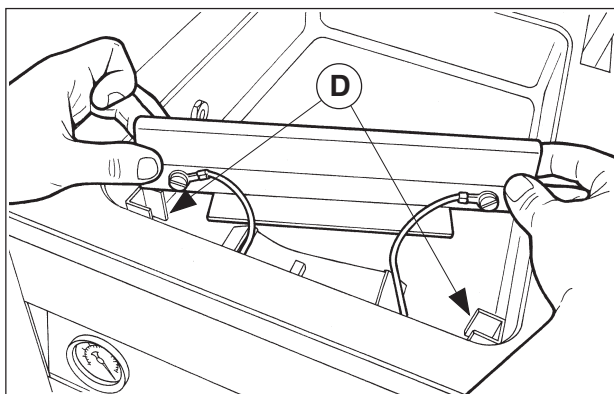
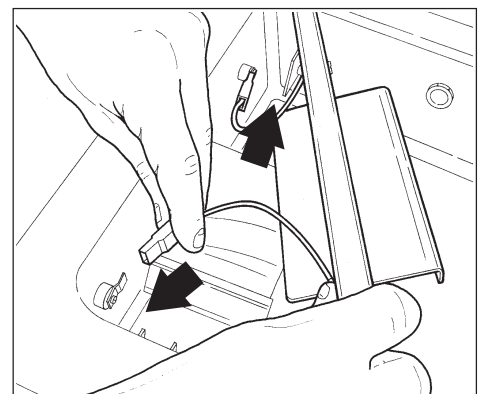

Fig. 6
Fig. 7
- 5) Refit the bar in guide (D - Fig. 6) and reconnect the connection wires (Fig. 7).